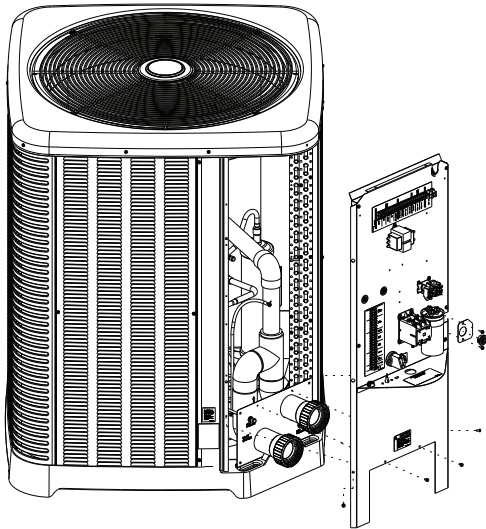

Fig. 9: Sheet Metal Screws to remove Junction Box Panel
5. Remove the 4 screws securing the junction box panel to the cabinet (1 each side and 2 by Inlet/Outlet water connections). See Fig. 9. Place the screws in the recessed cups in the molded base.